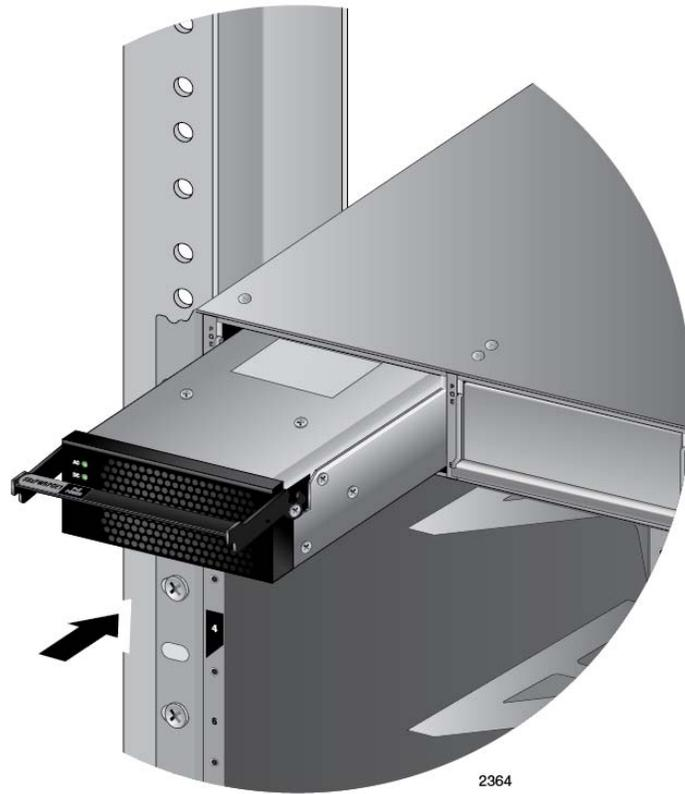

Figure 60. Inserting the AT-SBxPWRPOE1 AC Power Supply
6. Align and insert the AT-SBxPWRPOE1 Module into slot A or B. See Figure 60 on page 105.